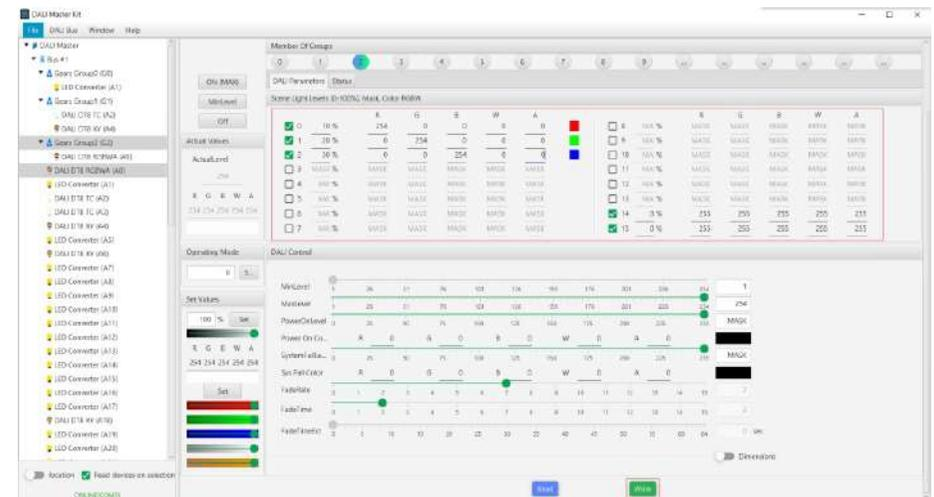

Figure 13 DALI Scene Configuration for DT8 RGB Device
4.5. For DT8 RGB device, brightness level, values of R, G, B (maximum 254) should be set for a DALI scene. After setting the parameters of the scenes, Click on **"Write"** button on bottom right of the window to write the scenes to the DALI device as shown in Figure 13.